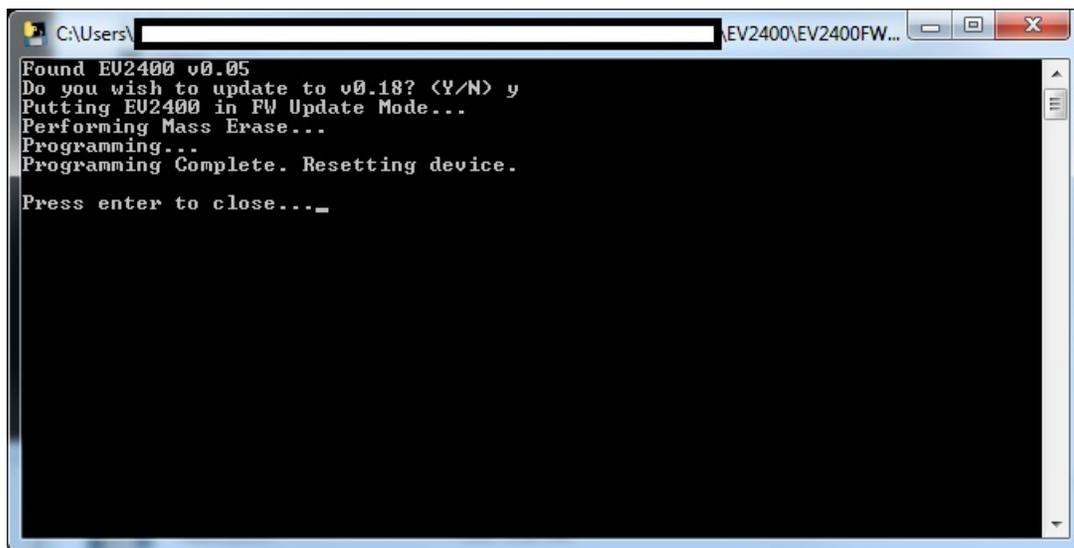

Figure 14. Update Complete Screen
10. The Firmware Updater tool should place the EV2400 into FW Update mode, perform a mass erase of the older EV2400 version's firmware, program the EV2400, and then reset the device. The tool will prompt the user to continue when finished. See Figure 14.